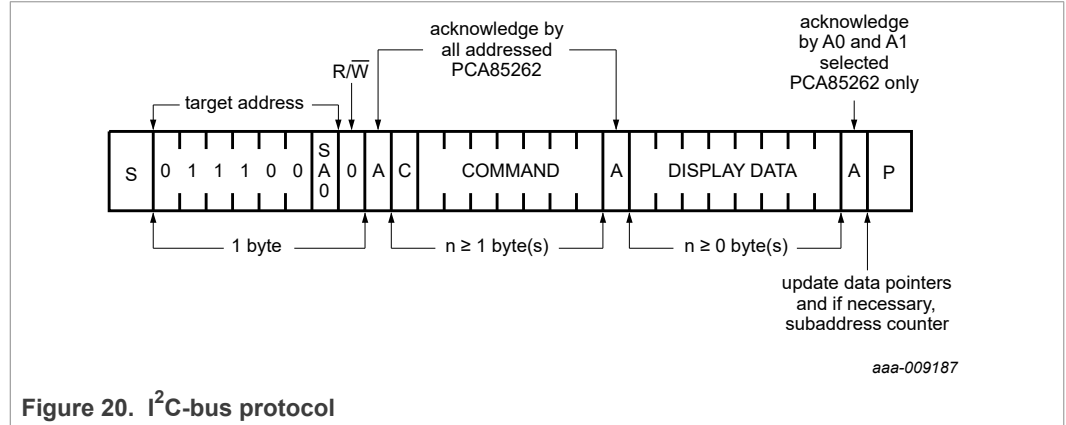

Figure 20. I²C-bus protocol
The I²C-bus protocol is shown in Figure 20. The sequence is initiated with a START condition (S) from the I²C-bus controller, which is followed by one of the two possible PCA85262 target addresses available. All PCA85262 whose SA0 inputs correspond to bit 0 of the target address respond by asserting an acknowledge in parallel. This I²C-bus transfer is ignored by all PCA85262 whose SA0 inputs are set to the alternative level.